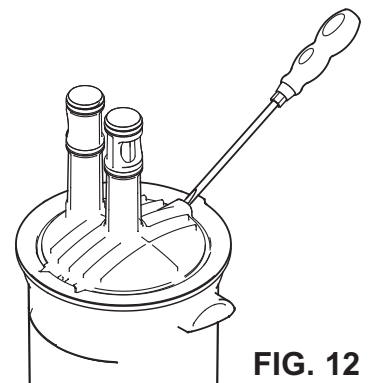

FIG. 12
6. Remove the used filter cartridge from the sump. If you have difficulty removing cartridge from sump, insert a screwdriver into the slot shown in Figure 12 and pry up. Dispose of used cartridge properly.